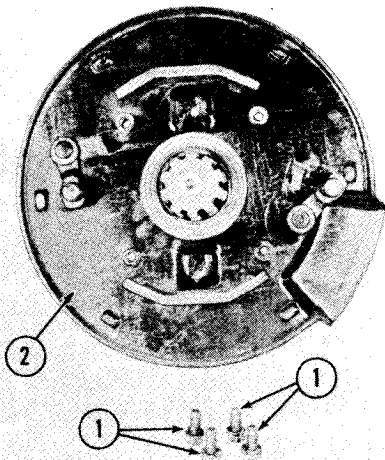

Figure 13-107
Install the backing plate (2, Fig. 13-107) on the transfer drive housing and secure with the cap screws and lock washers (1). Torque the cap screws. Refer to "SPECIAL TORQUES" in this section.